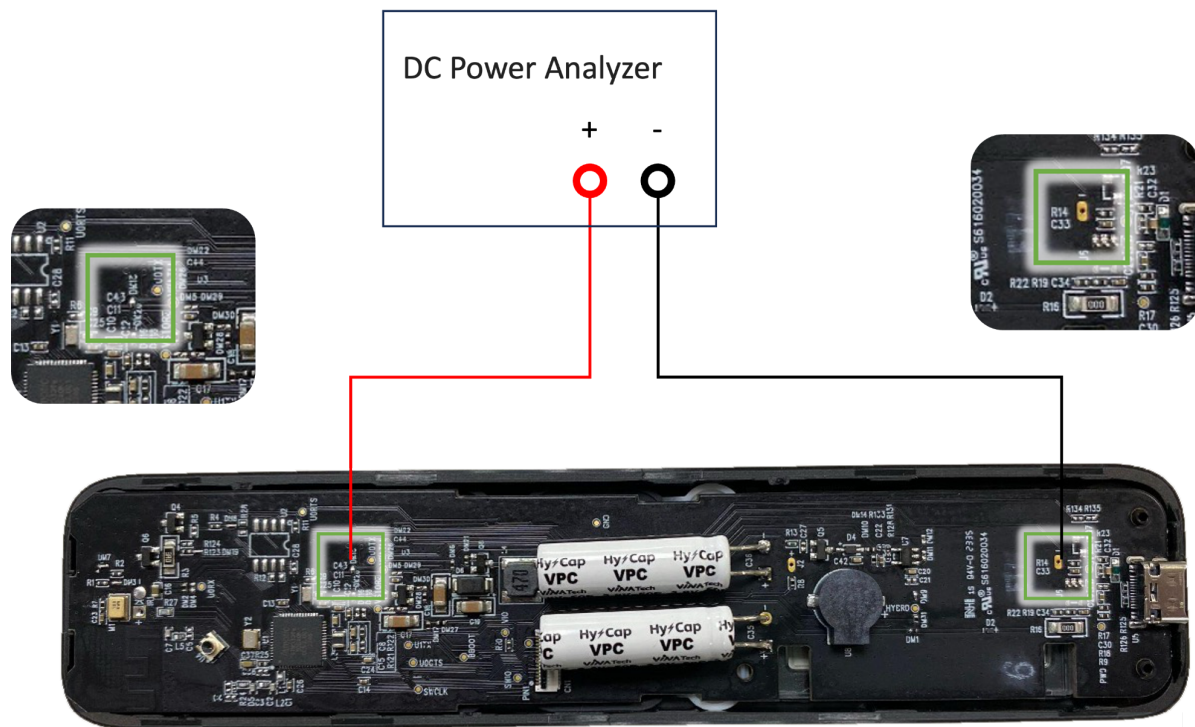

Figure 10 - Connection of Remote Control to DC Power Analyzer for System Current Measurements
- 3) Solder 2 fly-wires onto DM13 pin1 and GND (J2 pin2), respectively. Then connect the fly-wires with a DC power analyzer for further analysis of current consumption, as shown in the following Figure 10.